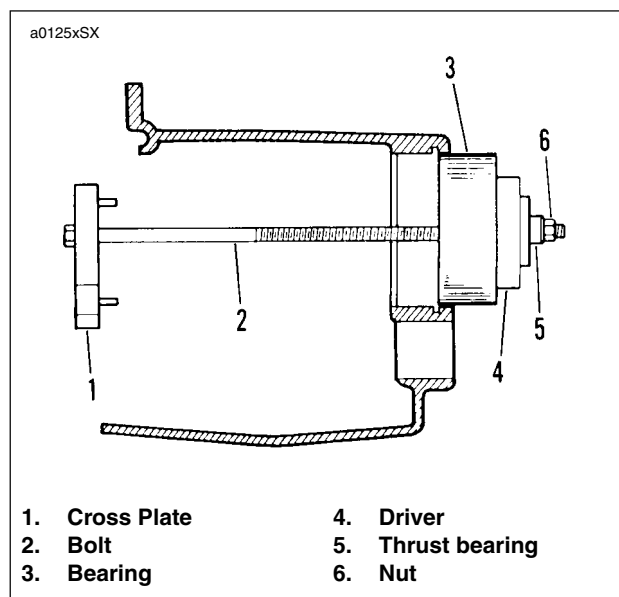

Figure 6-76. Installing Mainshaft Ball Bearing
2. See Figure 6-76. Insert bolt (2) through cross plate (1), **new** bearing (3), driver (4) and thrust bearing (5). Thread nut (6) on end of bolt. Tighten nut carefully until bearing is started in bore squarely. Tighten nut (6) until bearing is seated against shoulder in bore.